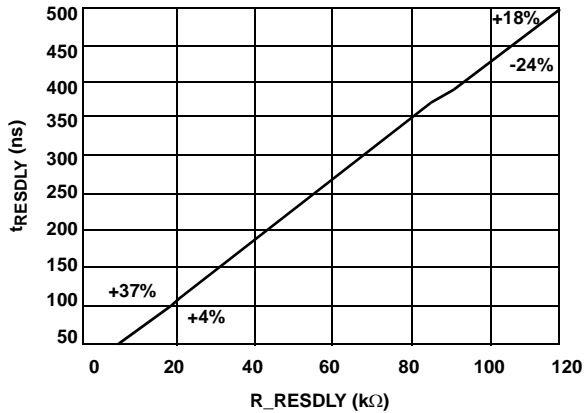

FIGURE 7. R\_RESPLY vs RESPLY
- Figure 7 illustrates the relationship of the value of the resistor ( $R\_RESDLY$ ) and the resonant delay ( $t_{RESDLY}$ ). The percentages in the figure are the tolerances at the two end points of the curve.